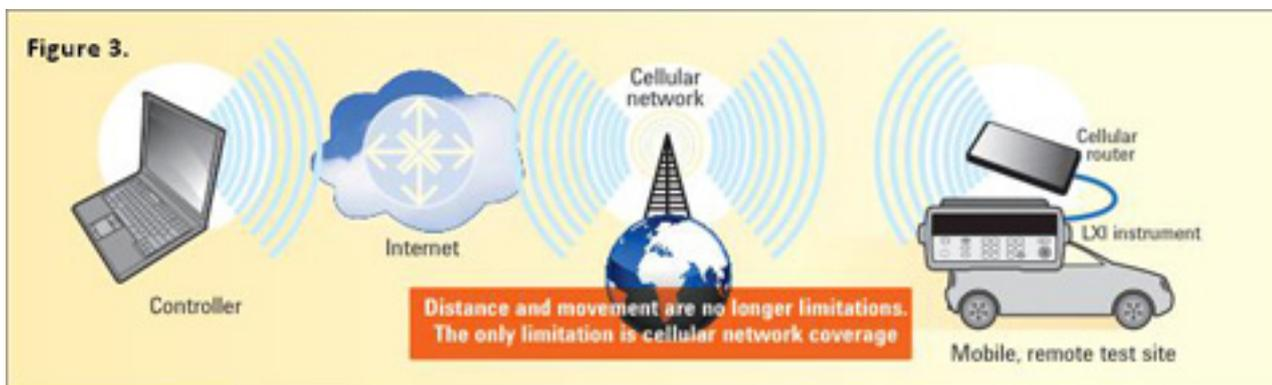

Figure 3. Cellular router setup.
- Using a Cellular router: Can connect to the Internet from almost anywhere as long as there is cellular network coverage. The cellular router setup is shown in Figure 3.